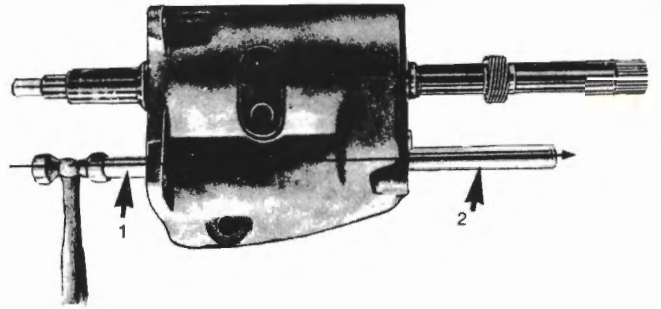

Fig. L-9
- 6 Using a dummy layshaft tool No. 18GA073 drive out the layshaft through the rear of the transmission case. Lower the laygear and dummy shaft to the bottom of the case. Fig. L-9.